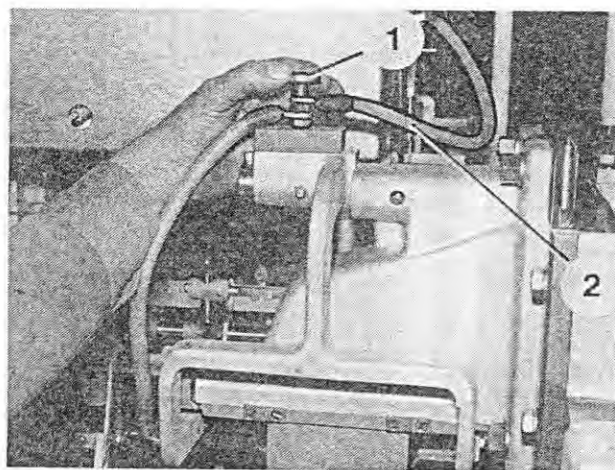

Fig. 140
7. When machines with heated wire cutter are used, unscrew the knurled nut (Figure 140/1) and remove the disk as well as the electric line (Figure 140/2). Attach the disk and screw on the knurled nut.